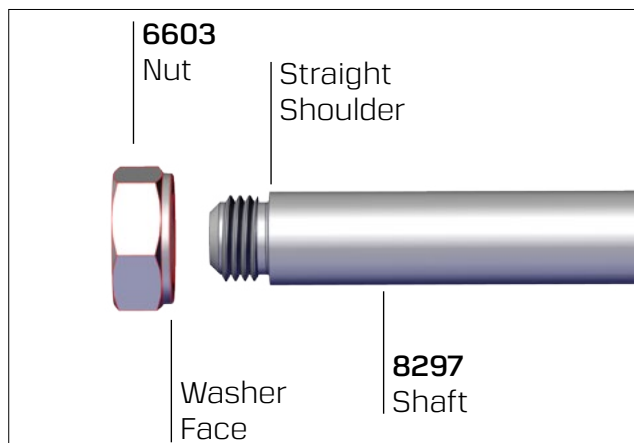

Fig. 18.
- A. Install **#6603** nut on straight shoulder end of **#8297** drive arm shaft with washer face of nut towards shaft (see Fig. 18). Screw nut all the way down until threads seat against shoulder of shaft.